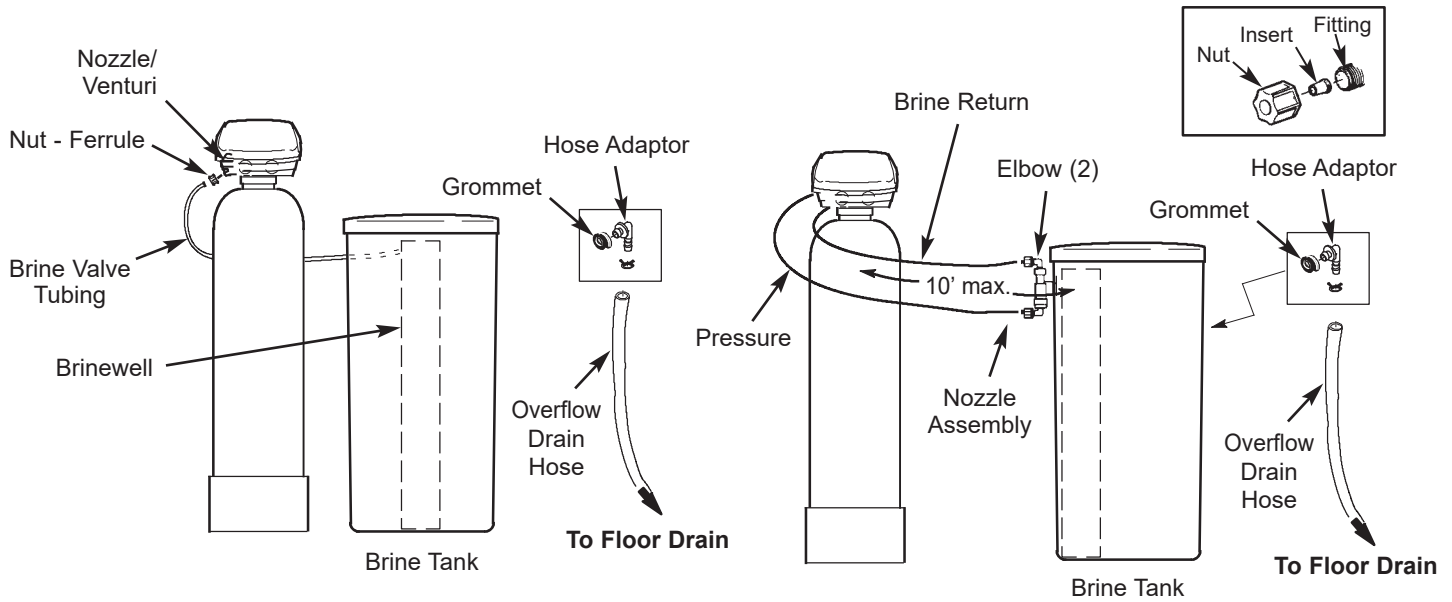

FIG. 7
2. **Softener Models: Move the brine tank assembly into position** nearby the resin tank. Enough tubing is included to allow locating the tank up to 10 feet away from the resin tank (Figure 7).
Thread the brine tube through the hole of the brine tank sidewall. Fasten tubing to the nozzle assembly (Figure 7) using the compression nut-ferrule, tightening securely, by hand only.
- Install two elbows (in separate parts bag with the brine tank) into the top and bottom of the nozzle assembly (Figure 7).